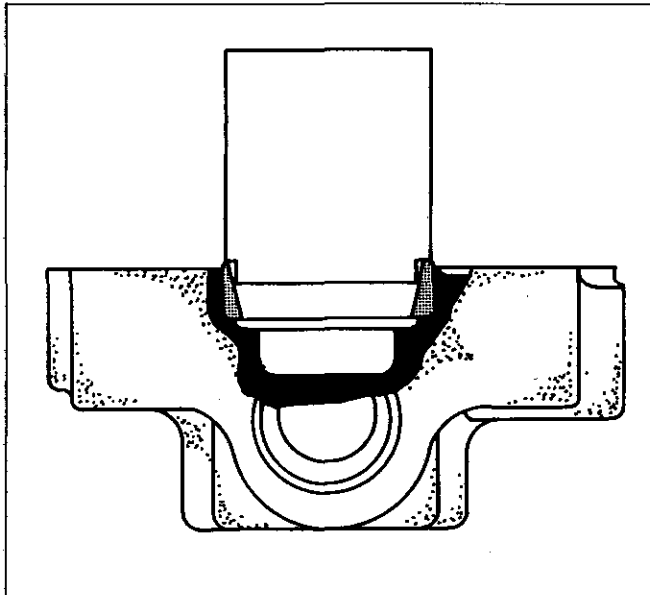

Figure 21. Installation of bearing race into valve block.
1. If bearing (38) was defective and bearing race (71) has been removed, a new bearing race must be installed into the valve block. Refer to Figure 21 and press a new bearing race in place with an arbor press. The bearing race must bottom against the shoulder of valve block at completion of press.